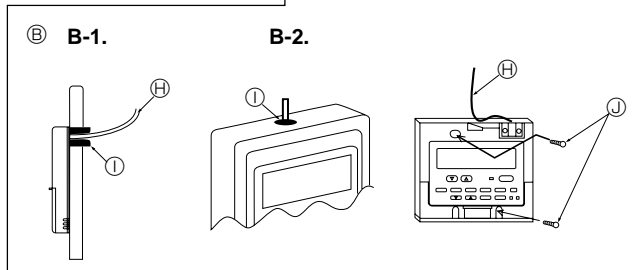

Fig. 2-2
(2) Seal the service entrance for the remote controller cable with putty to prevent possible invasion of dew drops, water, cockroaches or insects. (Fig. 2-2)
[Fig. 2-2]